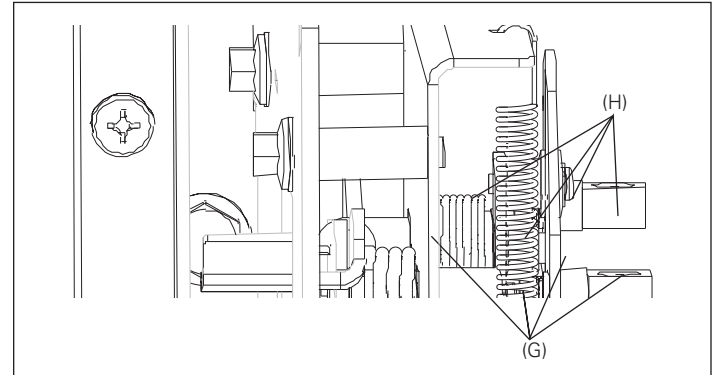

Figure 9. Details for Step 8
Fasten four cable brackets (G) to the right fixed mounting bracket (K) just below the interlock assembly (mounted in **Steps 5, 6 and 7**) using four M6 x 10 mm thread-forming screws (H) as shown in **Figure 9**. Torque to 7,3–9,6 N·m (65–85 in-lb).